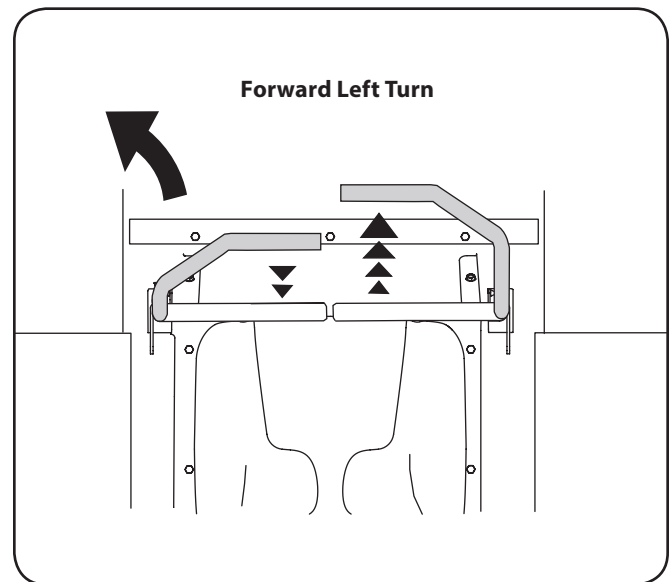

Figure 5-3
1. To turn to the left, move the left drive control lever rearward of the right lever. See Figure 5-3.